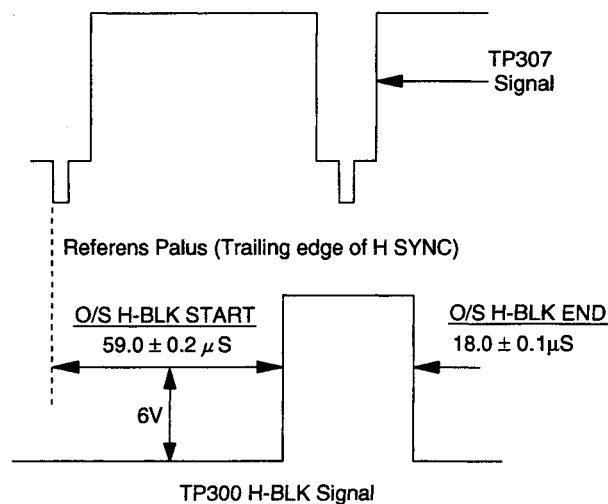

Fig.5-4
5. Observe the anode of TP307 and TP300 or D516 with an oscilloscope, and adjust **[O/S H-BLK START]** and **[O/S H-BLK END]** so that the waveform will be as shown in Fig.5-4.